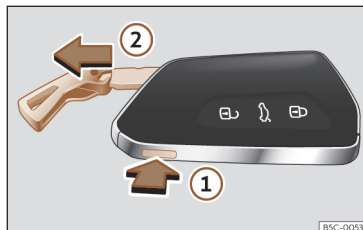

Fig. 73 Vehicle key: remove the key blade.
- Press the >>> **Fig. 73** ① button to release the ring from the key fob and remove the key blade ②. Pressing lightly on the ring leaves it fixed as a key fob.
- Press the >>> **Fig. 73** ① button to unlock. Press and hold button ① and at the same time pull on the ring in the direction of the arrow >>> **Fig. 73** ② to completely remove the key blade.